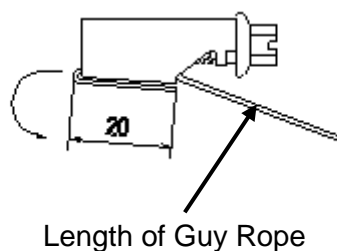

Figure 8: Strap Housing
2. Insert the strap into the housing from the screw head side, and bend a projection of 20 mm over the ridge (see **Figure 8: Strap Housing**)